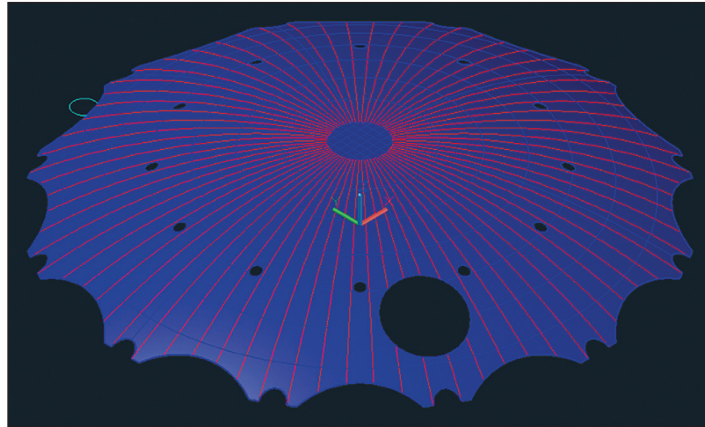

FIGURE 17.15 Trimming holes in the dome to accommodate the masts
7. Hover the cursor over the Layer Properties Manager's title bar to reveal the palette. Click the Cylindrical Towers layer's darkened lightbulb icon to toggle this layer on and then double-click the layer's icon to set it as current. Toggle off the Dome Voids layer. Figure 17.15 shows the result.